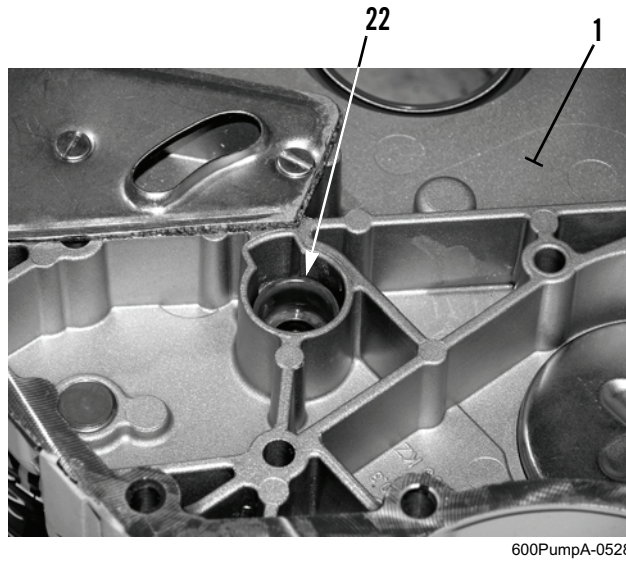

Figure 9. Cap in Front Cover.
2. Install cap (Figure 9, Item 22) in front cover (Figure 9, Item 1).